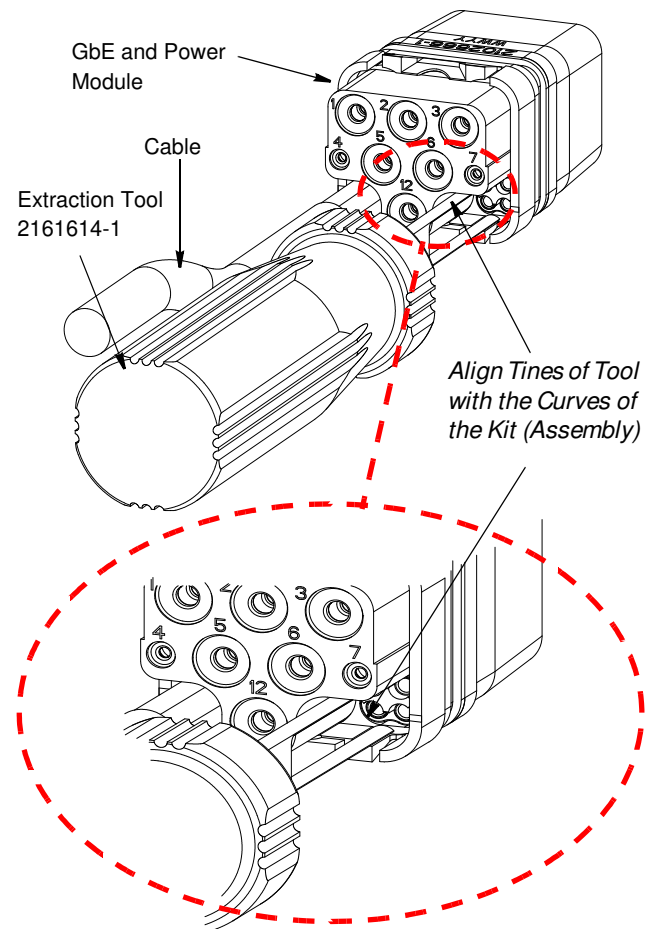
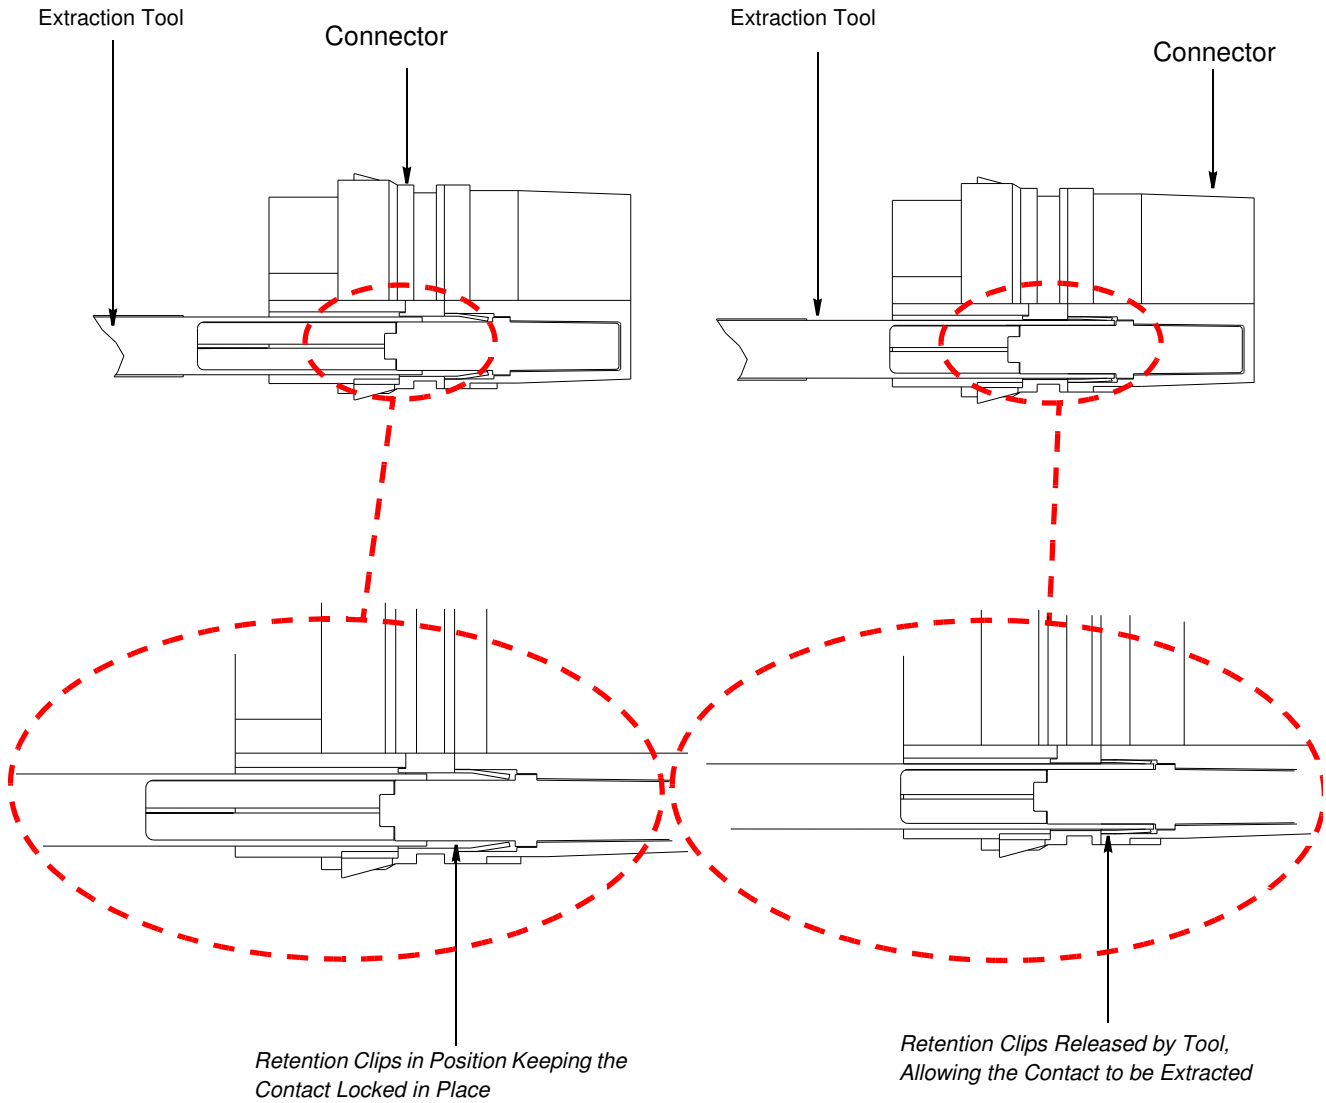

Figure 2
Figure 3
2. Position the wires and cables so that the tool can be positioned as shown in Figure 2 and Figure 3 without causing unwanted interference between the tool and the wires.
3. Gently slide the tines of the tool along the top and bottom of the DATA DART assemblies as shown in Figure 2 and Figure 3. The contour of the tool matches the contour of the assembly.
4. When the tool bottoms in the housing the retention tines will spring out of the way of the contact. (Refer to Figure 3).